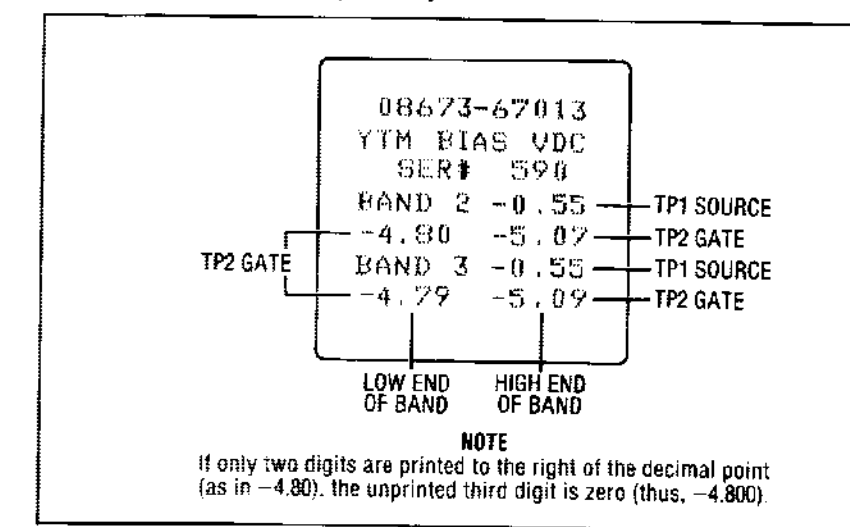

Figure 8-124. YTM Bias Label
- Refer to the SRD BIAS label on the bulkhead of the A2 section, a typical example of which is shown in Figure 8-124.